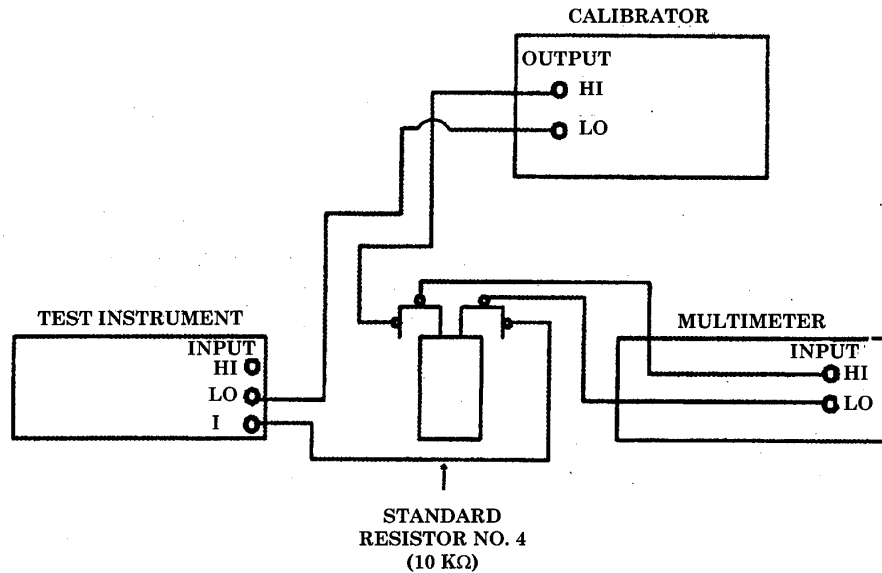

Figure 3. Dc current – equipment setup.
(7) Press TI keys as listed in (a) through (c) below:
(8) Perform paragraphs **13** through **17** below on multimeter (not TI) to establish manufacturer's 24 hour accuracy.
(9) Connect equipment as shown in figure 3.
(10) Set multimeter to measure dc voltage on 1 V range.
(11) Press TI **FUNCTION/RANGE Range** γ or β key to 100 μ A range.
(12) Set calibrator for a 100 μ A dc output, then using output adjustment controls, adjust calibrator output for a 100.00000 (± 20 digits) TI indication.
(13) Divide multimeter indication by standard resistor test report value. Calculated value will be between 99.99664 and 100.00336 μ A.
(14) Repeat technique of (9) through (13) above using standard resistors and settings listed in table 6. Calculated values will be within limits specified.